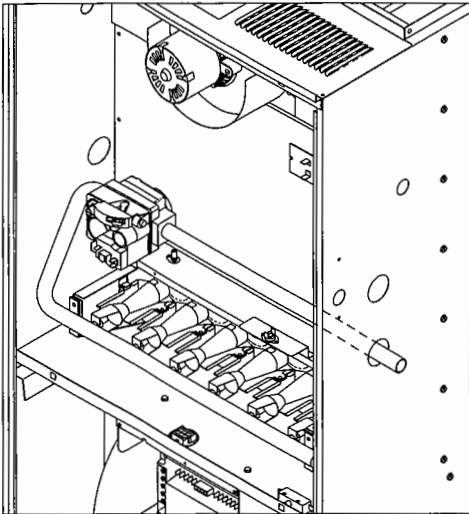

Fig. 5B — Gas Inlet Through Furnace Right Side
- Straight pipe to reach the exterior of the furnace. See Fig. 5B.